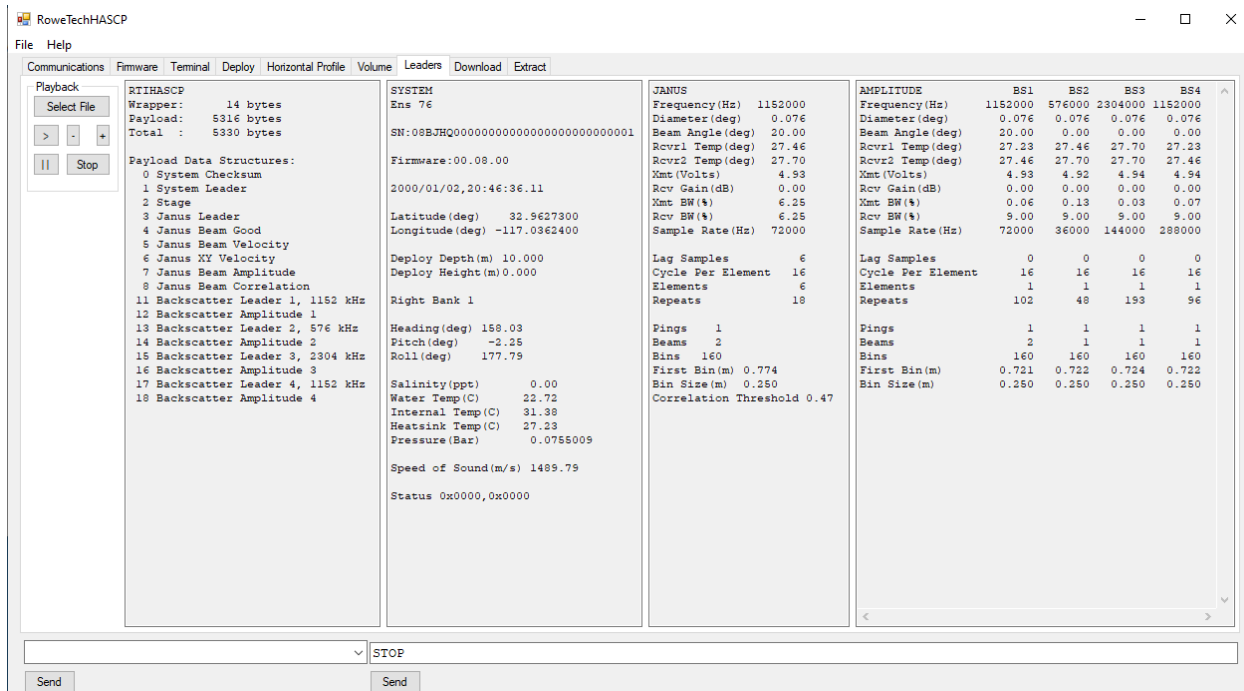

Figure 11. Leaders Tab in RTI HASCP software
- a. Click the Leaders TAB near the top center of the software window. Refer to Figure 11.